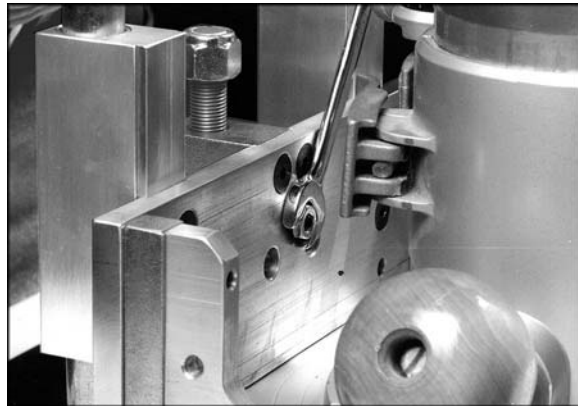

Figure 20
2. With a 7/16 open end wrench, loosen the 1/4-20 hex nut (Fig. 20). Then back out the set screw with the 1/8 hex wrench.